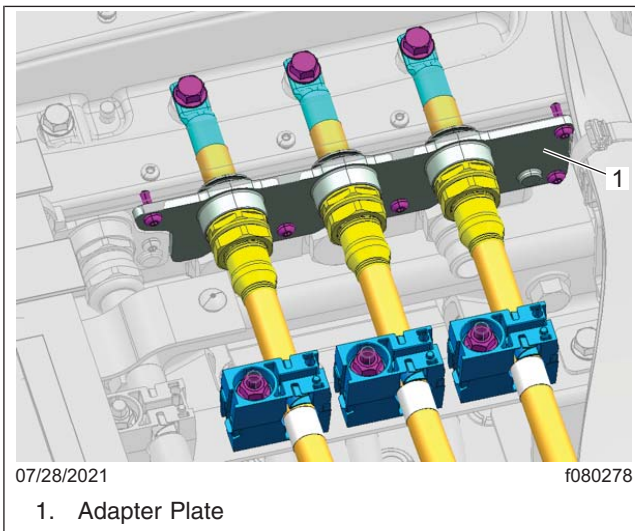

Fig. 8, Location of the Adapter Plate
16. Pull the cables out from the rear of the inverters. See Fig. 8.